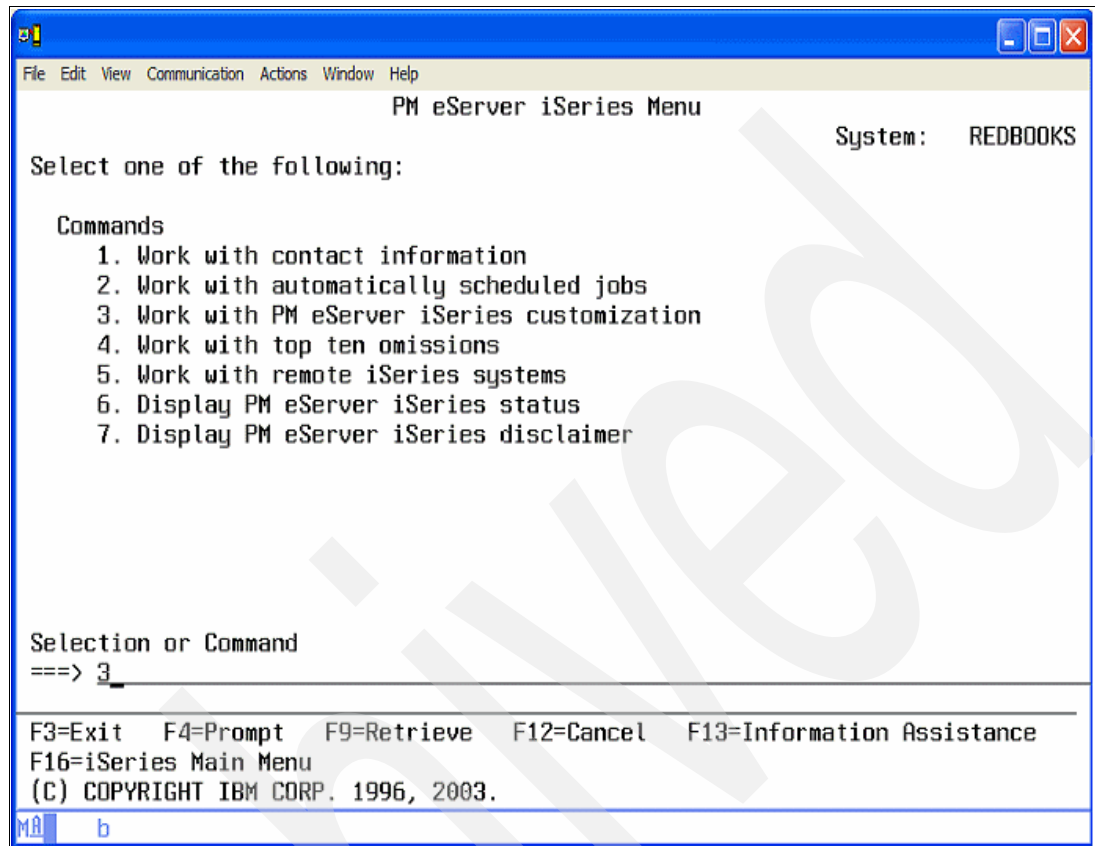

Figure A-9 Performance Monitor main menu
2. On the Performance Monitor main menu, select **3. Work with PM eServer iSeries customization** (Figure A-9).